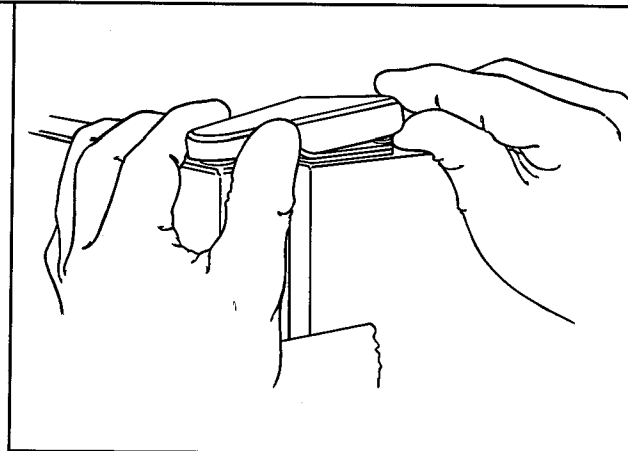

Figure 8
- b. Slide hinge cover toward front and off hinge. See Figure 8.